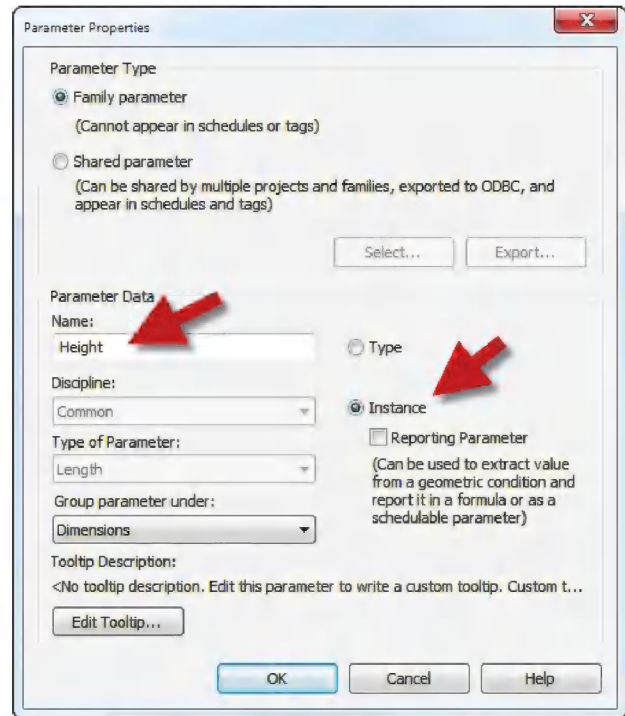

FIGURE 15-3.7 Creating the *Height* parameter
11. Add a **Height** parameter to the dimension (see Figure 15-3.7 and 15-3.8).